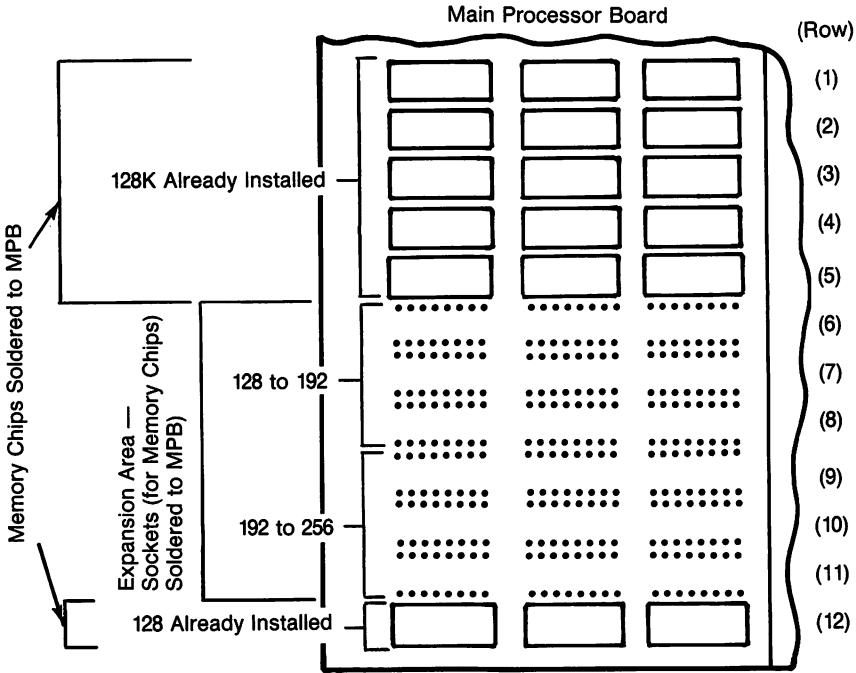

Figure 4-8 Memory Expansion Sockets
3. Locate the specific sockets to be used. Figure 4-8 shows which specific sockets are used for each of the two 64 KB memory increments which can be added to the MPB. Of the twelve rows of three chips or sockets, the top five rows and the bottom row are populated at the factory with the initial minimum 128 KB memory. Rows 6-7-8 are sockets for the first 64 KB increment, from 128 KB to 192 KB. Rows 9-10-11 are sockets for the second increment, from 192 KB to 256 KB.